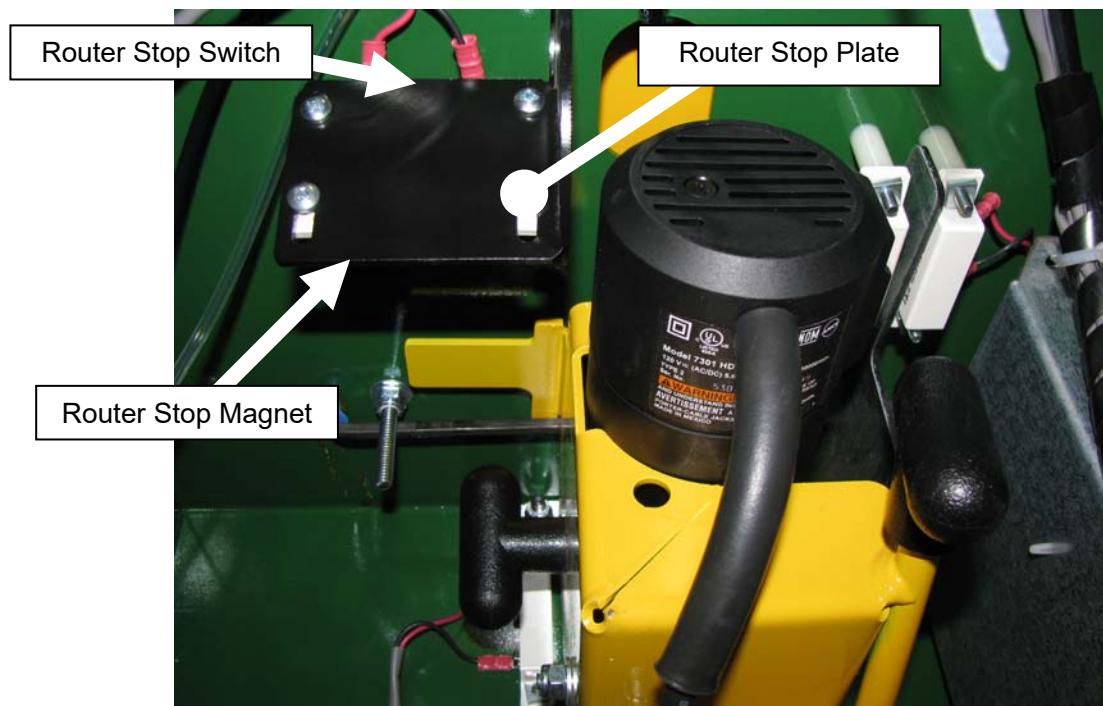

Fig 10
2. The Router Stop Switch and Magnet are attached to the back side of the Router Stop Plate, which is located just to the left of the Drill motor. **See Fig 10.**